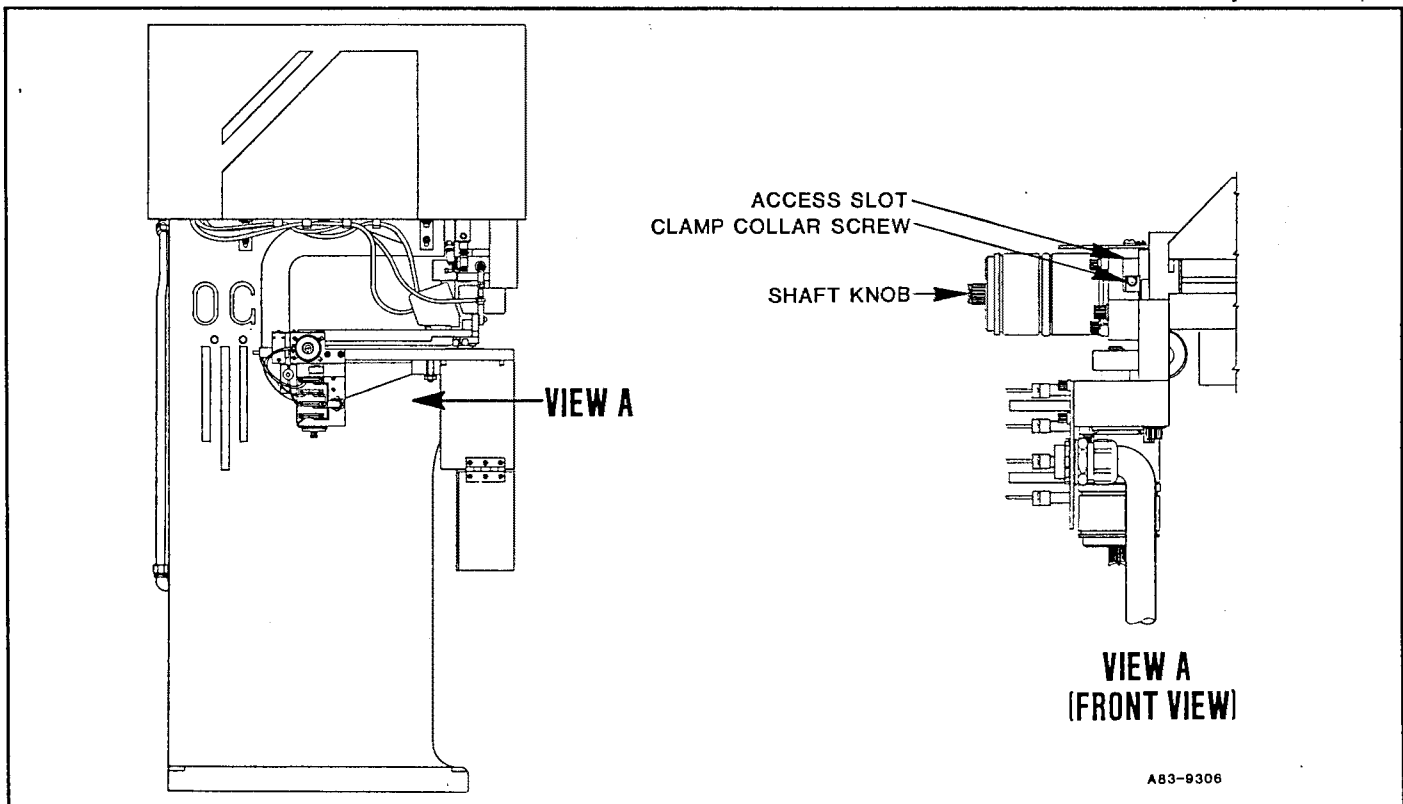

Figure 8.10 C
2. Remove in-out servo motor mounting screws (531), lock washers (532), and clamps (533) with 9/64" hex wrench.
3. Pull in-out servo motor (534) off of mounting block (538).
4. Place new in-out motor on mounting block (538) and secure in place with clamps (533), lock washers (532), and screws (531).
5. Tighten clamp collar screw. See Figure 8.10 C.
6. Push board #2 into its socket (see Figure 8.10 A).
7. Reattach sponge tape (494) and board retaining bar (493) with board retaining bar screws (491) and lock washers (492).